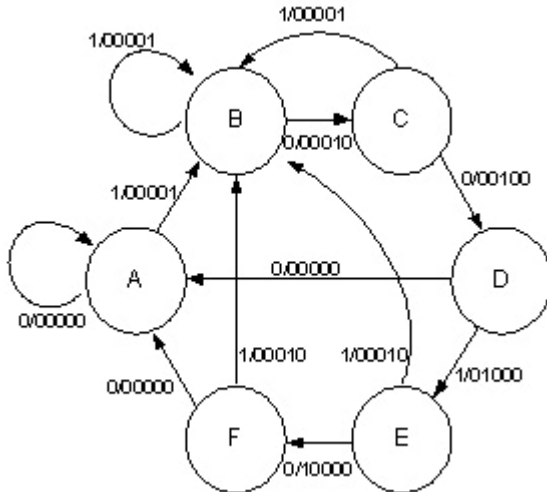

Figure 1. State diagram.
**First step;** Create the state diagram with all possible sets of inputs. Refer to figure 1.